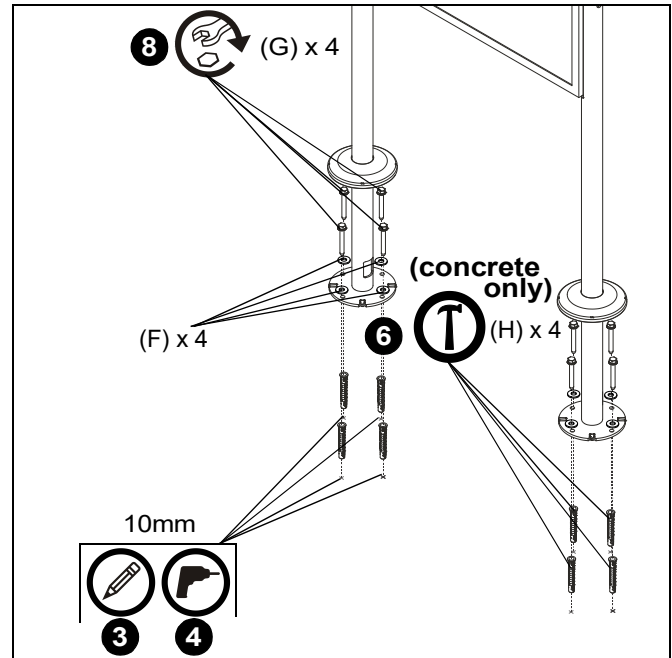
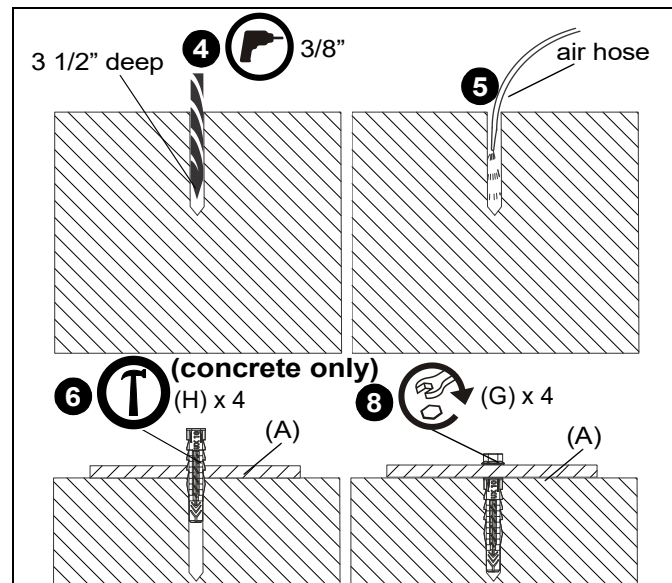

Figure 3
Figure 4
- Using floor post bases (A) as templates, mark four holes at outside hole locations for each column. (See Figure 3)
- Using a 25/64" (10mm) (**CONCRETE**) or a 7/32" (5.5mm) (**WOOD**) drill bit, drill a hole 3 1/2" in depth at each marked location. (See Figure 3) and (See Figure 4)
- Blow each hole clean of any debris with a large air hose or compressed air in a can. (See Figure 3) and (See Figure 4)
- (CONCRETE ONLY)** Use a hammer to install concrete anchors (H) into the drilled holes. (See Figure 3)
- Place each floor post base (A) on top of installed anchors (H) or drilled holes making sure holes on plate are aligned with holes. (See Figure 3) and (See Figure 4)
- Install four 5/16 x 2 1/2" hex head cap screws (G) through 5/16" washers (F) and into four anchors (H) or drilled holes to secure each column base to floor. (See Figure 3) and (See Figure 4)
- Tighten each anchor by turning the head three to four turns past finger tight. (See Figure 4)